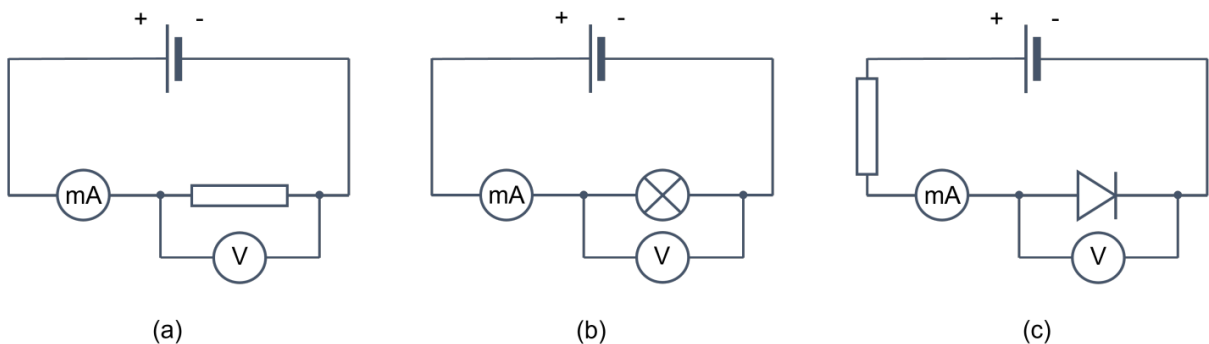

Figure 5: Circuits for IV characteristics.
The circuits required for this experiment are shown in Figure 5.
1. Set up the circuit for the resistor as shown in Figure 5(a). If you need help:
1. Set up the circuit for the bulb as shown in Figure 5(b). If you need help
1. Set up the circuit for the diode as shown in Figure 5(c). The resistor in this circuit is a protective resistor at $10\ \Omega$. If you need help: